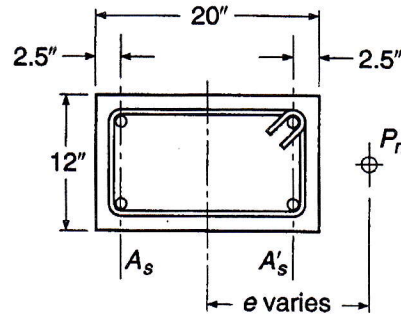

*Fig: 1*
1. A two-way beam supported slab system with columns 22"×22" square inch is shown in Fig:1. The slab contains floor finish of 35 psf, random wall = 50 psf and live load = 75 psf. Determine the following for slab-D.